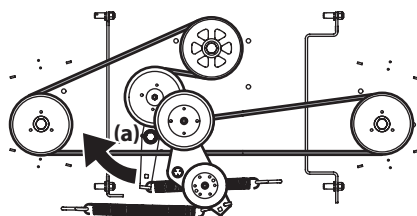

Figure 56
5. Using a 1/2" drive insert the end into the 1/2" square opening in the deck idler assembly (a) and rotate the deck idler assembly (a) clockwise. See Figure 56. While holding the deck idler assembly (a), loosen the deck belt from the pulley and slide the belt away from the pulley.
6. Route the new belt as shown in Figure 56. Then reinstall the deck and PTO belt.